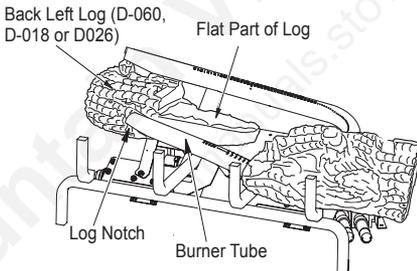

Figure 24 - Installing Back Left Log
2. Find the back left log (VFGT24 inch models: D-060 or VFGT30 inch models: D-018 or VFGT36 inch models: D-026). See Figures 24, 24A, and 24B. Figure 24A shows how the log must fit against the end of the burner. Figure 24B shows how the notch in log fits against the vertical portion of the burner tube. Place this log on the base assembly by inserting it from the left side as shown in Figure 24. You will need